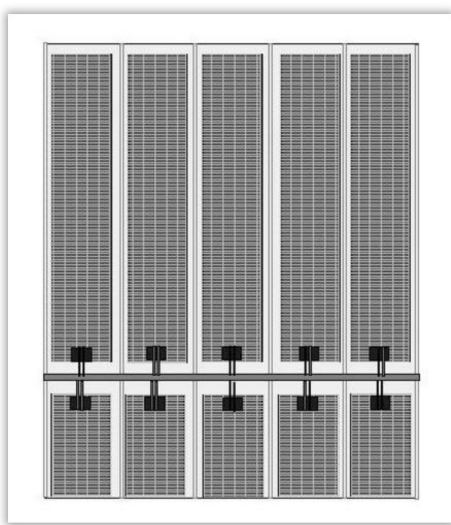

Figure 6. Mid-roof application.
- Install FLEX modules close to the ridge cap (**Figure 6**), without shading the FLEX module. Do not place J-Box behind Z-Closure.